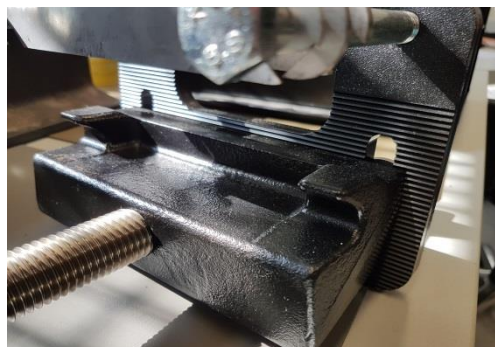

Figure 9: Corrugation of the mounting plate9
- The mounting plate has on its inside a corrugation with a 1.5 mm grid (cf. figure 9). This allows the adjustment of the height positioning of the DSS in relation to the upper side of the rail head. Figure 9: Corrugation of the mounting plate